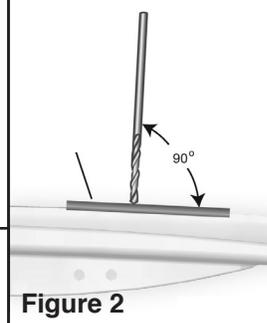

Figure 2
- 4) Repeat step 3 for the second hole. (Figure 2)